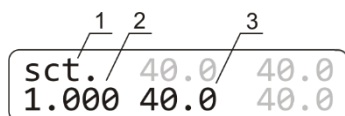

Figure 4. Display in calibration mode: 1. Calibration mode indicator; 2. Calibration coefficient; 3. Temperature with current coefficient
- 6.2. To change the calibration coefficient, hold the **TIME RUN/STOP** key pressed for more than 8 s to activate calibration mode. The calibration coefficient appears on the display (figure 4).
Note. Values marked in grey on figures 4 and 5 are not used in calibration and are meant for service engineers.
- 6.3. **Restoring factory settings.** Set 1.000 value using the **▲** and **▼ T, °C** keys as shown on fig. 4/1 to restore the factory settings. Press the **►/■ RUN/STOP** key once to save the changes and exit the calibration mode.
- 6.4.5. Hold the **TIME RUN/STOP** key pressed for more than 8 s to activate calibration mode (figure 4).